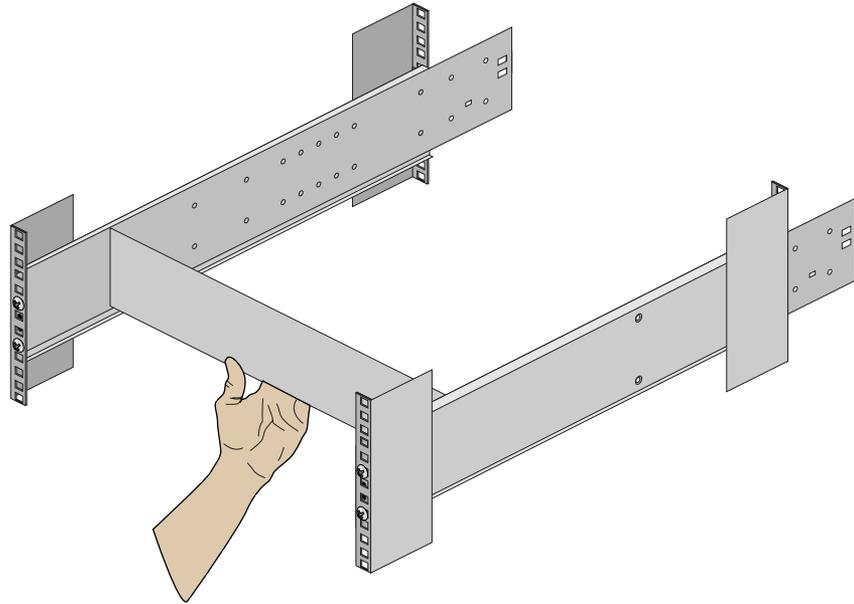

Figure 2-5 Slide the Alignment Tool from Front to Back
5. Double-check the alignment by moving the alignment tool through the rack. There should be no play between the alignment tool and the rails, see Figure 2-5 on page 17 for an example.